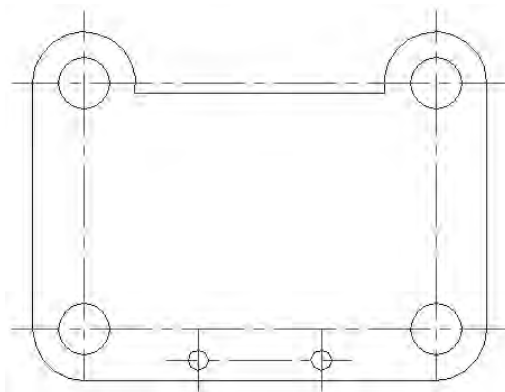

Figure 10-10: The completed tension arm
4. Choose Offset from the Modify toolbar again. At the Specify offset distance or [Through] <Through>: prompt, type `4-19/64` ↵. Pick the centerline ❸ at the Select object to offset or <exit>: prompt, and near ❹ at the Specify point on side to offset: prompt. Press Enter to end the command. AutoCAD copies the vertical centerline 4-19/64 units to the right of the original.
5. Save your drawing. It should look like Figure 10-10.